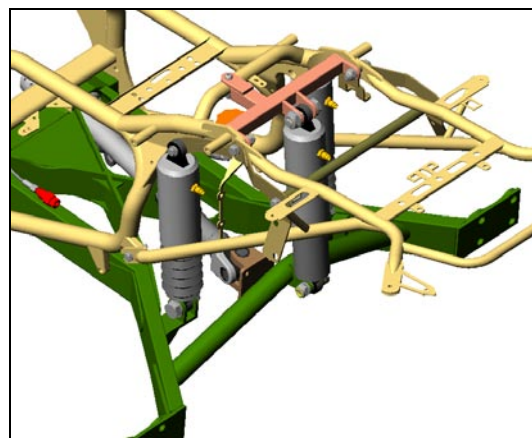

Figure 25
- a. Install the supplied Outer Shock Absorbers using supplied hardware. Figure 25